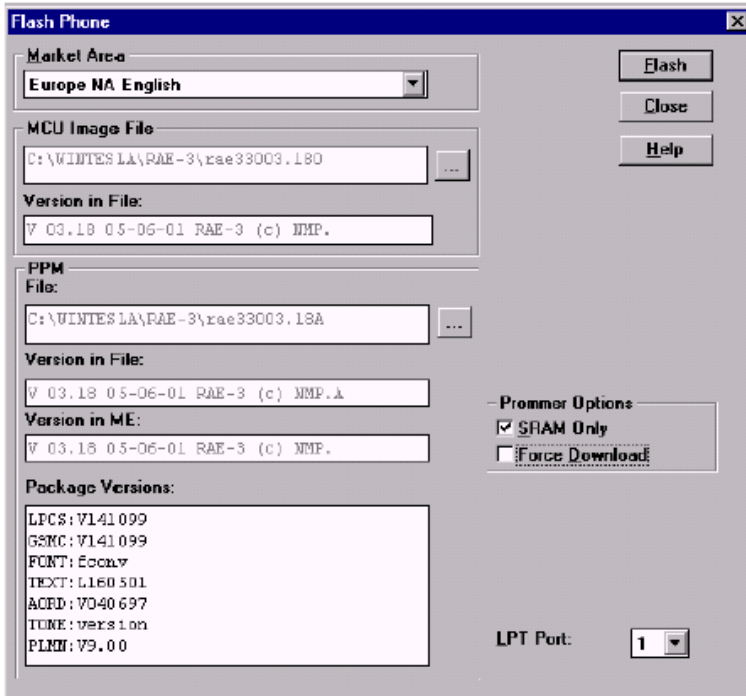

Figure 8. Flash phone –dialog
- 9. Press "Flash" button (see Figure 8)